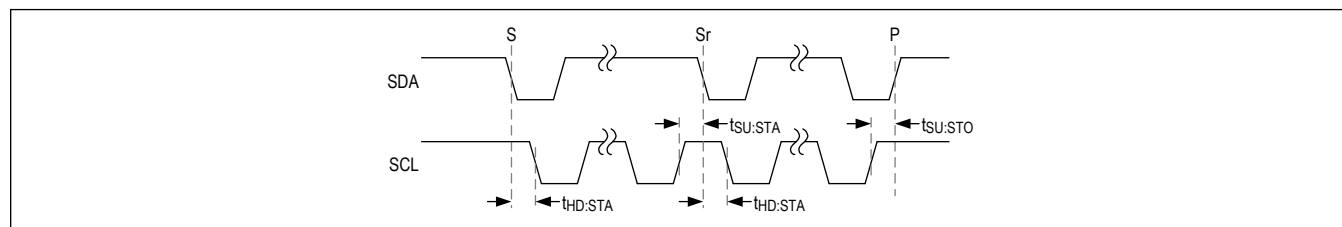

Figure 5. START, STOP and REPEATED START Conditions
A master device initiates communication by issuing a START condition. A START condition is a high-to-low transition on SDA with SCL high. A STOP condition is a low-to-high transition on SDA while SCL is high (Figure 5). A START (S) condition from the master signals the beginning of a transmission to the MAX20459. The master terminates transmission, and frees the bus, by issuing a STOP (P) condition. The bus remains active if a REPEATED START (Sr) condition is generated instead of a STOP condition.